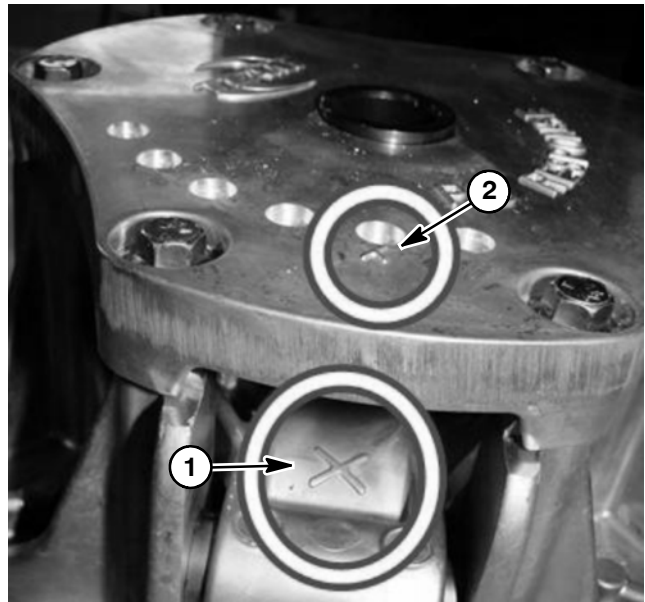

Figure 9
1. Make note of the “X” mark cast into the cover and spider before clutch disassembly (Fig. 9). These marks must be aligned during assembly for proper operation.